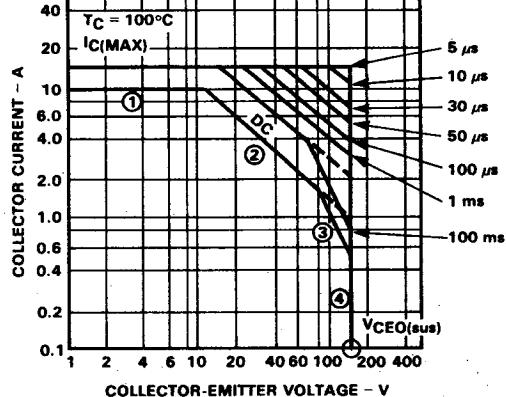

Fig. 5-1. Typical Safe Area
In a typical safe area diagram, *Figure 5-1*, collector current I_C is shown as a function of collector-to-emitter voltage V_{CE} . Each curve is labeled with the duration of the on pulse – from the worst-case dc condition to a minimum duration of 5 μs – at $T_C = 100^\circ C$ and a 1% duty cycle. The four factors limiting the dc forward-biased SOA of a particular power transistor are the collector current (1), thermal limitation (2), second breakdown limitation (3), and $V_{CEO(sus)}$ (4).
Power dissipation at high voltages is limited by second breakdown, boundary (3) in *Figure 5-1*. Under second breakdown conditions, the output impedance changes almost instantaneously from a large value to a small limiting value. This condition is distinguished from normal transistor operation in that once it occurs, the base no longer controls normal collector characteristics. Physically, second breakdown is caused by localized current concentrations resulting in uncontrollable generation and multiplication of carriers causing a sudden reduction of collector impedance. As the duration of this phenomenon exceeds the thermal time constant of the area, the transistor is irreversibly damaged. The forward-bias second breakdown current I_{SB} is defined as the current at the onset of second breakdown. To increase the I_{SB} rating of a power device, wide base-width and uniform base-dopant concentration are key factors. Wide base width improves second breakdown capability in three ways. First, it reduces intensity of the transverse electric field; second, a wide base promotes fanning out of the current before it reaches the collector-base junction, thus tending to eliminate generation of hot spots; third, it also acts to thermally isolate the emitter-base junction from the hot spots generated in the collector base region, thus tending to prevent thermal runaway. Uniform base doping such as obtained by the Fairchild multiple epitaxial process, utilizing epitaxial base material, improves second breakdown capability by reducing the transverse electric field in the base.
So far, discussion of forward-biased safe area has been limited to dc operation. Another forward-bias operating mode, namely, pulsed operation, must be considered. Refer to the typical safe area diagram in *Figure 5-1*. Very high peak power dissipation is possible during pulsed operation. For example, peak power of 360 W at 60 V is permissible for a pulse width of 0.1 ms, compared with maximum power of only about 115 W at 60 V for dc conditions. This high peak power capability arises from the inherent thermal capacitance of the device which enables it to absorb short bursts of energy without exceeding the maximum junction temperature or going into second breakdown. If the time between power pulses is relatively long (low duty cycle), most of the stored thermal energy is dissipated before the next power pulse arrives; thus, temperature build-up in the device is prevented. As indicated in *Figure 5-1*, allowable peak power increases as pulse width decreases. This follows from the fact that total energy absorbed is equal to the product of power and time. If the time duration of the pulse decreases, peak power can increase without increasing total energy absorbed.